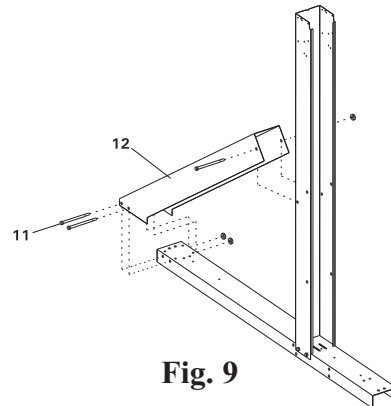

Fig. 9
C) Once all of the straight side uprights are attached, you can begin attaching the struts. This is done by pushing the angled end of the strut (the end with two holes on each side) over the end of the strap end channel and the other side around the straight side upright. The hole on each side of the strut lines up with the hole in the straight side upright that is farthest from the open end of the straight side upright. The two holes on the other end of the strut line up with the only two holes in the back end of the strap end channel. Secure the struts using three 5/16" x 4 1/2" bolts and three 5/16" nuts. See Fig.9 for visual instructions.